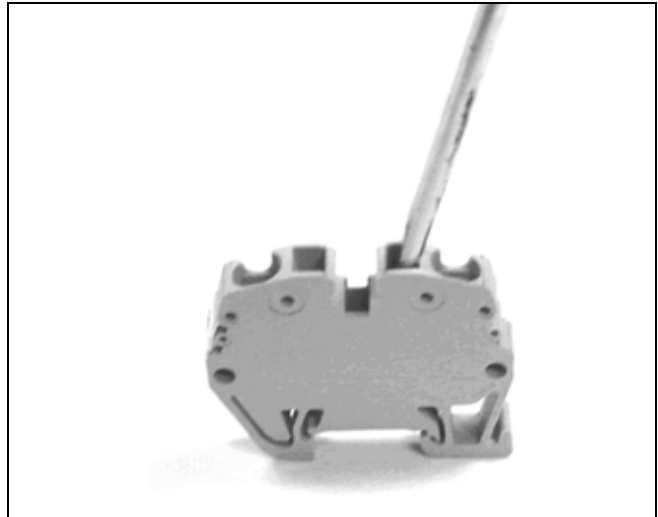

Figure 21. Screwdriver Inserted in the "Tool" Hole.
Step 2: Begin by inserting a small, blade screwdriver into the square (tool) hole with the flat surface of the screwdriver against the back wall of the hole (see Figure 21). With a little bit of force, push the screwdriver in on a slight angle toward the center of the clamp. Be sure to slide it in until it clicks. You will then see the clamp open in the wire hole.